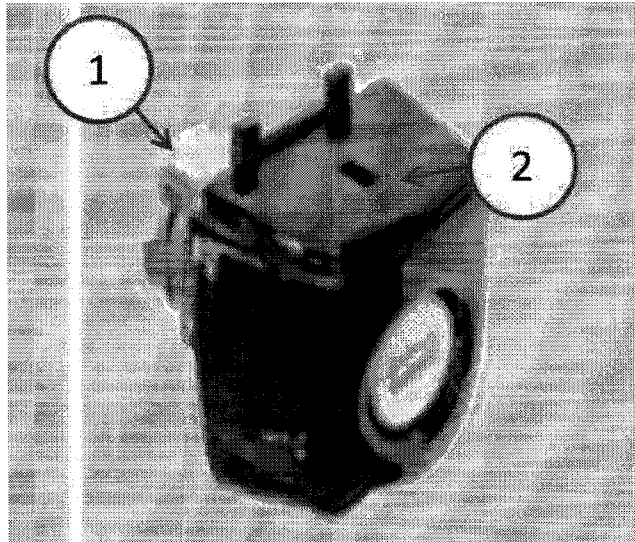

Fig. 2 Driver Door Lock Assembly
- Separate the lock cylinder assembly (1) from the lock cylinder cover (2). Refer to (Fig. 2).